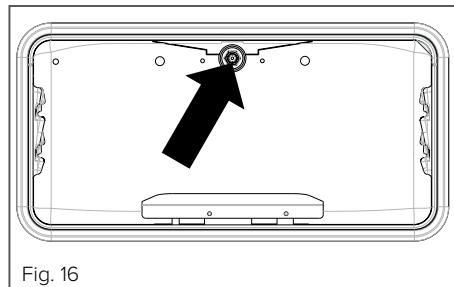

Fig. 16
3. Remove the injector, the position of which is shown in Fig. 16, using a 7mm nut spinner and replace with the correct injector as per the gas type and the oven (grill) burner table on page 35.